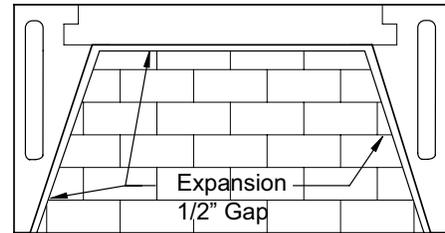

FIGURE 23
3. Start the fire brick at the front edge of the floor of the Isokern firebox, proceeding inward toward the back. Let the floor brick gap approximately 1/2" off the back wall and side walls. This air space allows heat expansion of the fire brick and is to be left empty of mortar. (Figure 23)